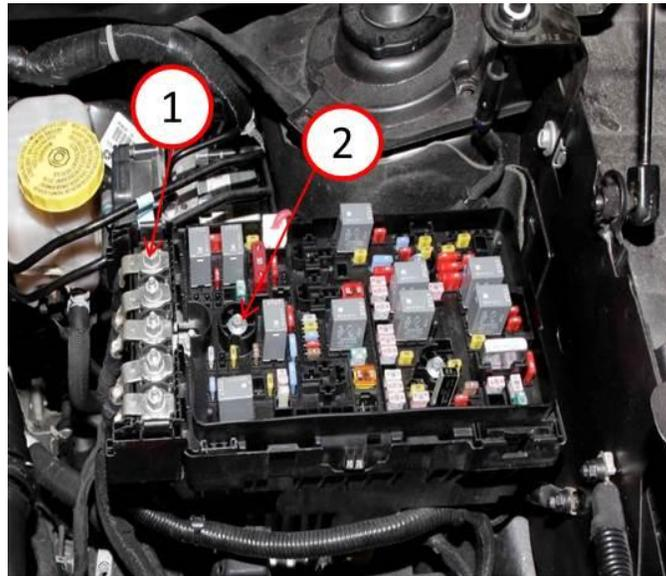

Fig. 12 PDC Wiring
14. Remove the fastener nut on #1 power wire in (PDC) (Fig. 12).
15. Loosen the bolt (Fig. 12) securing the transmission harness to the PDC.
16. Remove the transmission wiring harness from under the PDC housing tray (Fig. 12).